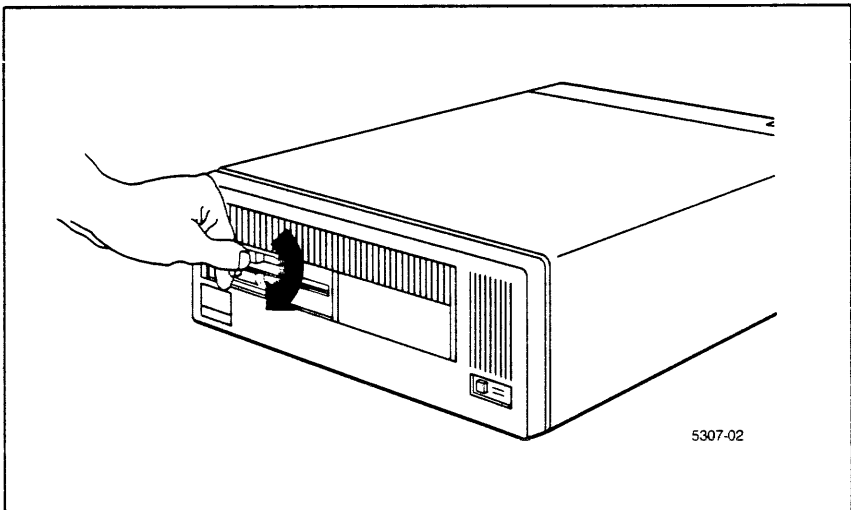

Figure 2-4. Closing the Latch on the Diskette Drive.
3. Turn the latch on the drive to allow the head to engage (Figure 2-4).